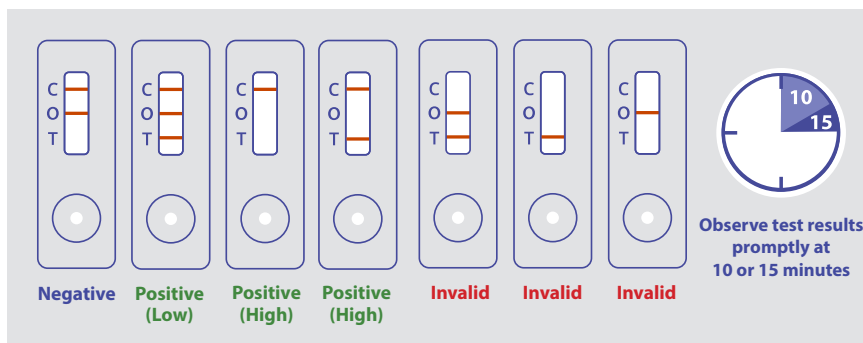

Figure 3. Interpreting Test Outcomes
**9.1.** A negative result is indicated by the development of a strong control line (C) and overload (O) line. An example of a negative result is depicted in **Figure 3** labeled “**Negative**”.
**9.2.** Positive test results at lower analyte concentrations will result in the appearance of the test line (T) in addition to the overload line (O) and/or the control line (C). At higher analyte concentrations, the test line (T) and/or the overload line (O) will disappear, leaving only the appearance of the control line (C). Thus at high analyte concentrations, the disappearance of the overload line (O) indicates that the sample is positive for the analyte regardless of the appearance of the test line (T). Examples of positive results are depicted in **Figure 3** labeled “**Positive**”.